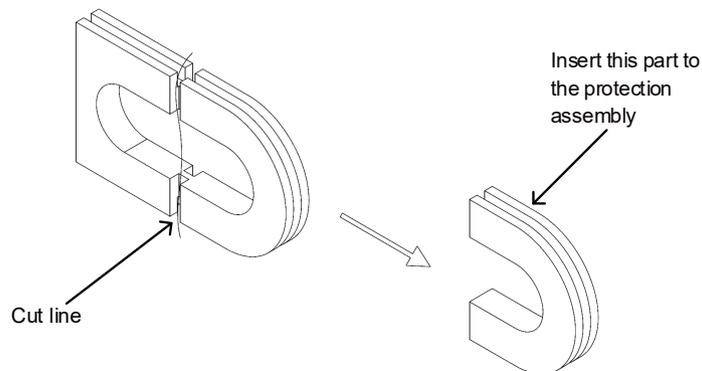
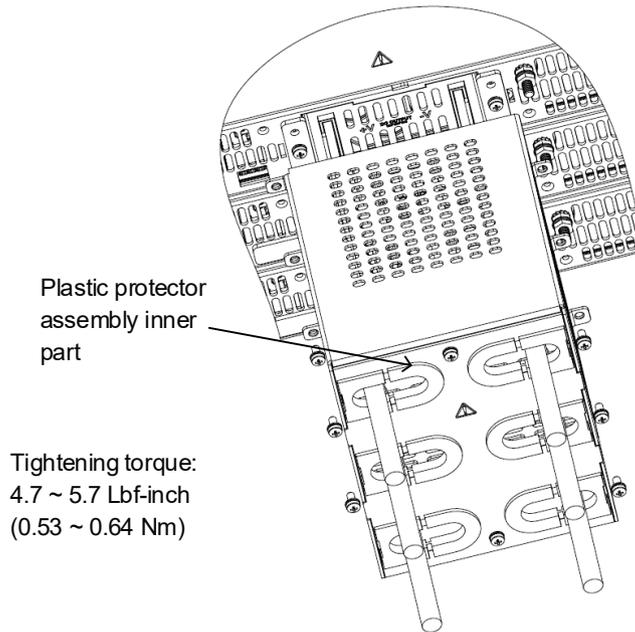

Figure 4-44: Plastic Protectors Separation
Figure 4-56: Assembly of 60V - 100V Wires Protection Cover
4. Remove & separate each plastic protector into two parts by cutting the plastic bridge between both parts, as shown in Figure 4-44.
5. Insert back to the protection assembly only the specified part, as shown in Figure 4-44.
3. Assemble the bus bars protection assembly to the rear panel of the power supply, by using 6 M3x6 Sems screws, as shown in Figure 4-56 (15kW is shown, it applies to 10kW as well. For 10kW, there are 4 screws only).
In case thicker wires are required, separate the plastic protector assembly and install only the inner part, refer to Figure 4-56 and Figure 4-44.